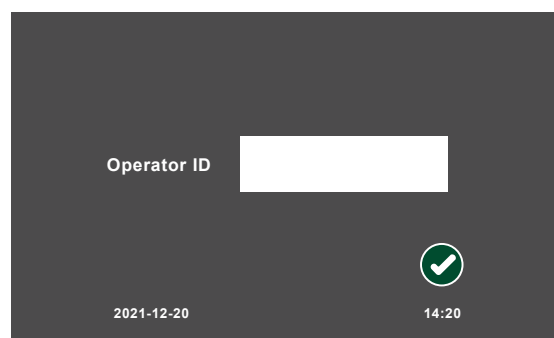

Figure 3. Operator ID Screen
1. Tap on the Operator ID window. See Figure 3.